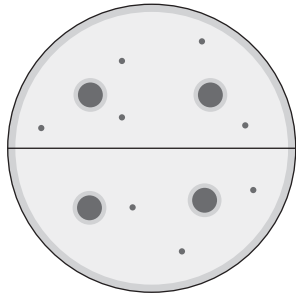

FIG. 14.1. Minimal growth medium with sterile disks showing random spontaneous mutations (control plate)
In this procedure, you will determine whether certain chemicals are capable of causing mutations. Such chemicals are called *mutagens*. When the auxotrophic strain of his⁻ *S. typhimurium* is exposed to a test chemical (placed on a paper disk), and a large amount of colonial growth is observed surrounding this disk, it becomes evident that this chemical is indeed a mutagen. The mutagenic chemical converted the his⁻ strain of the bacterium to a his⁺ strain (backmutation). The growth medium used in this procedure contains a very small amount of histidine plus another growth factor that will allow for some growth of the test organism, but not enough to completely cloud the plate with a typical **lawn** of bacteria. The medium used is thus termed *minimal growth medium* (Figs. 14.1 and 14.2).
4. Aseptically place four sterile filter disks in the four divided sections of one of the plates. This will act as a control and determine how many spontaneous mutations are present. (See Fig. 14.1.)